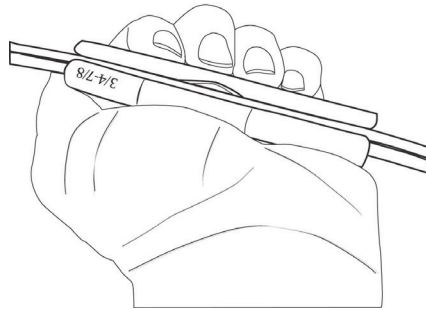

Figure 2
2. Apply manual pressure to close the protector cylinder around the cable (Figure 2).